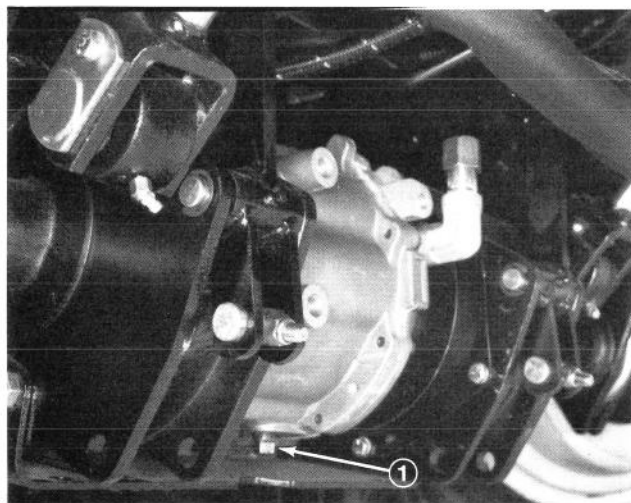

Figure 53
(Fig. 53)
2. Clean area around the drain plug (Fig. 53).